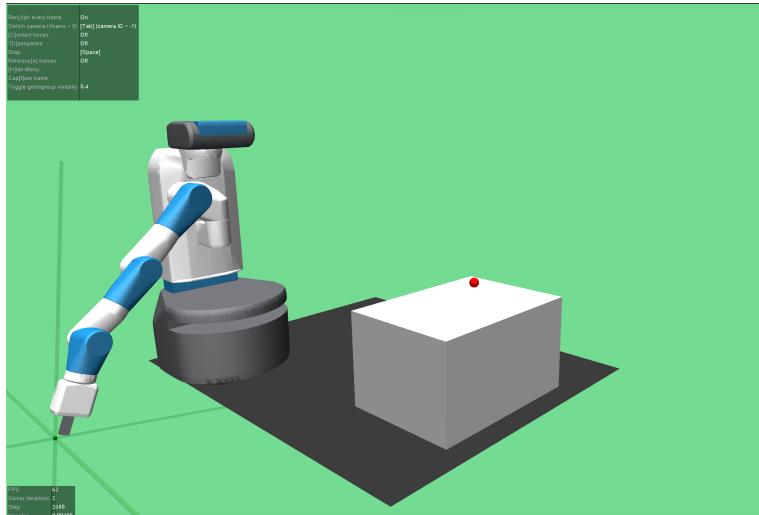

Figure 5: Example robot planning in task space.
If you turn on the `-v` flag, i.e. `python plan.py --seed 0 -v`. You should see a plot similar to Fig. 5.
1. Bias the sampling to pick the goal with 5%, 20% probability. Report the performance (cost and time). For each setting, include at least one figure like Fig. 5 showing the RRT tree in configuration space. Which value would you pick in practice?
Observe each trajectory taken by the Fetch robot and record the total cost of both the smoothed path and the actual path in your report along with the 3D plot of the RRT plan generated with obstacle. The answer is more open-ended as long as the robot visualization shown that it has reach the target pose in the task configuration space as shown in Figure 5 for both smoothen and actual path.